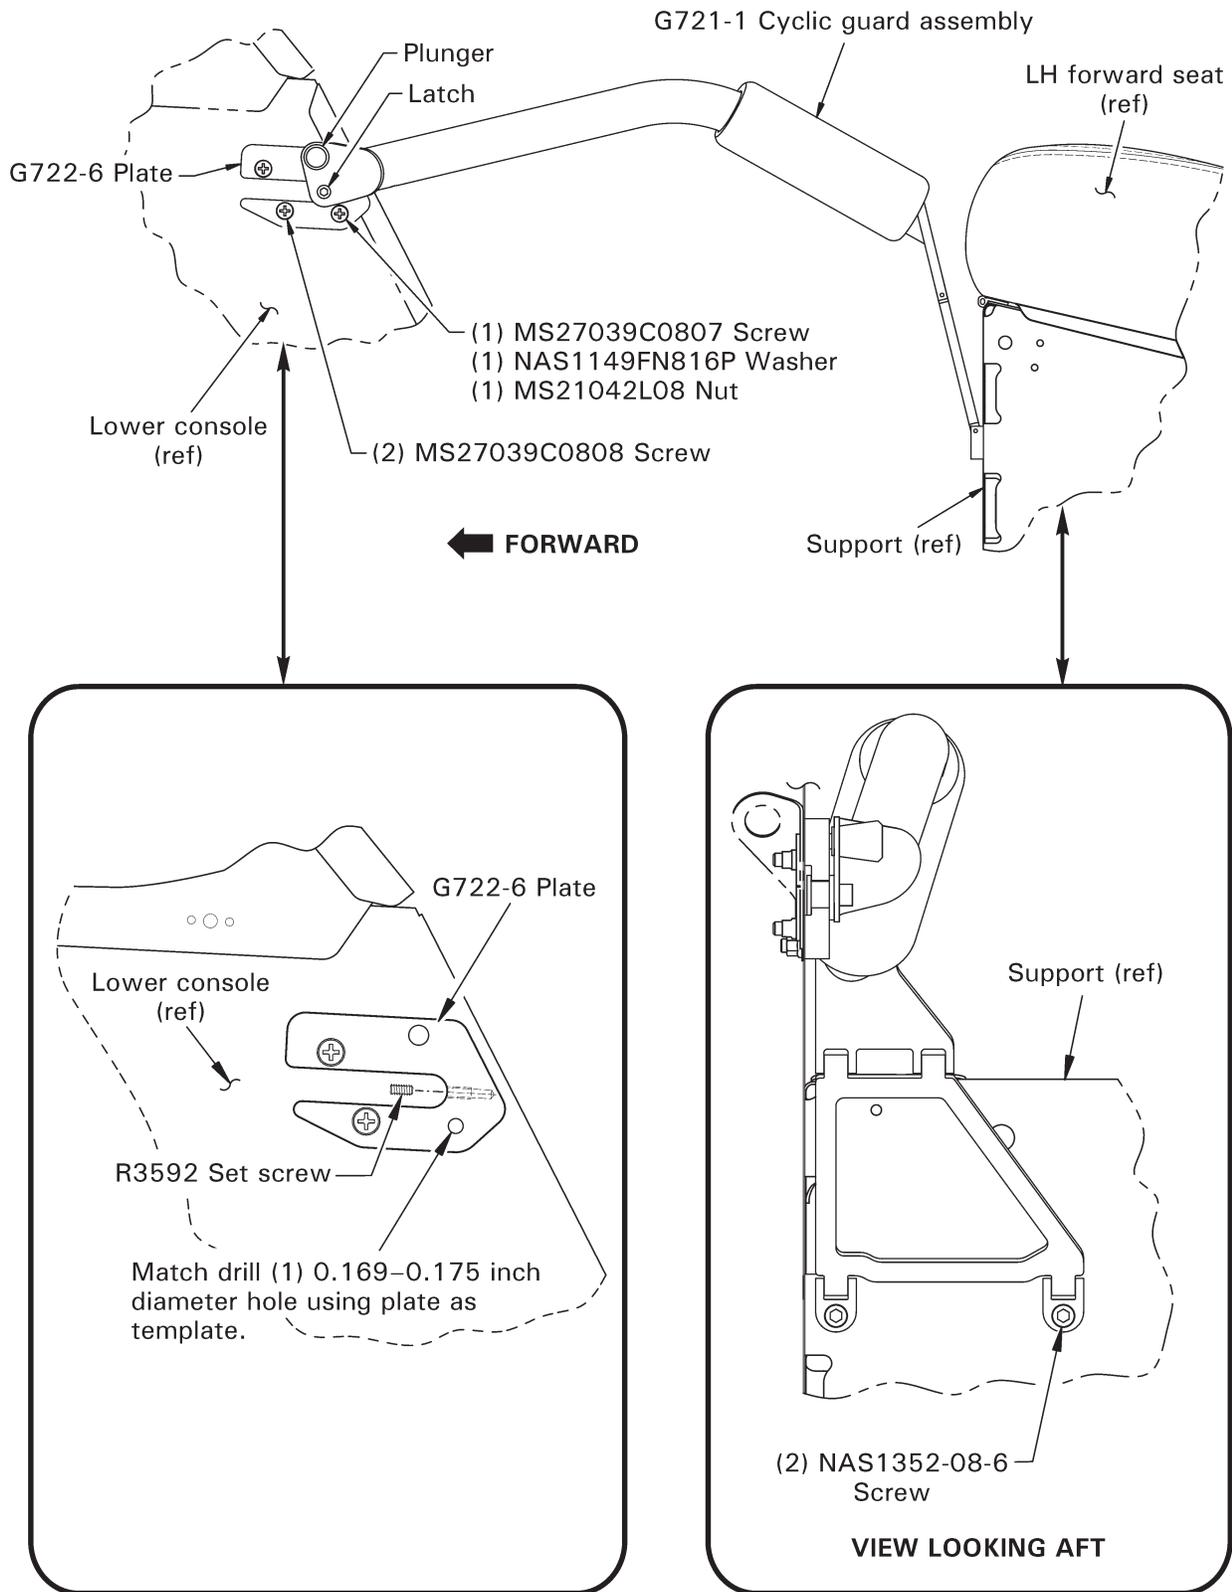
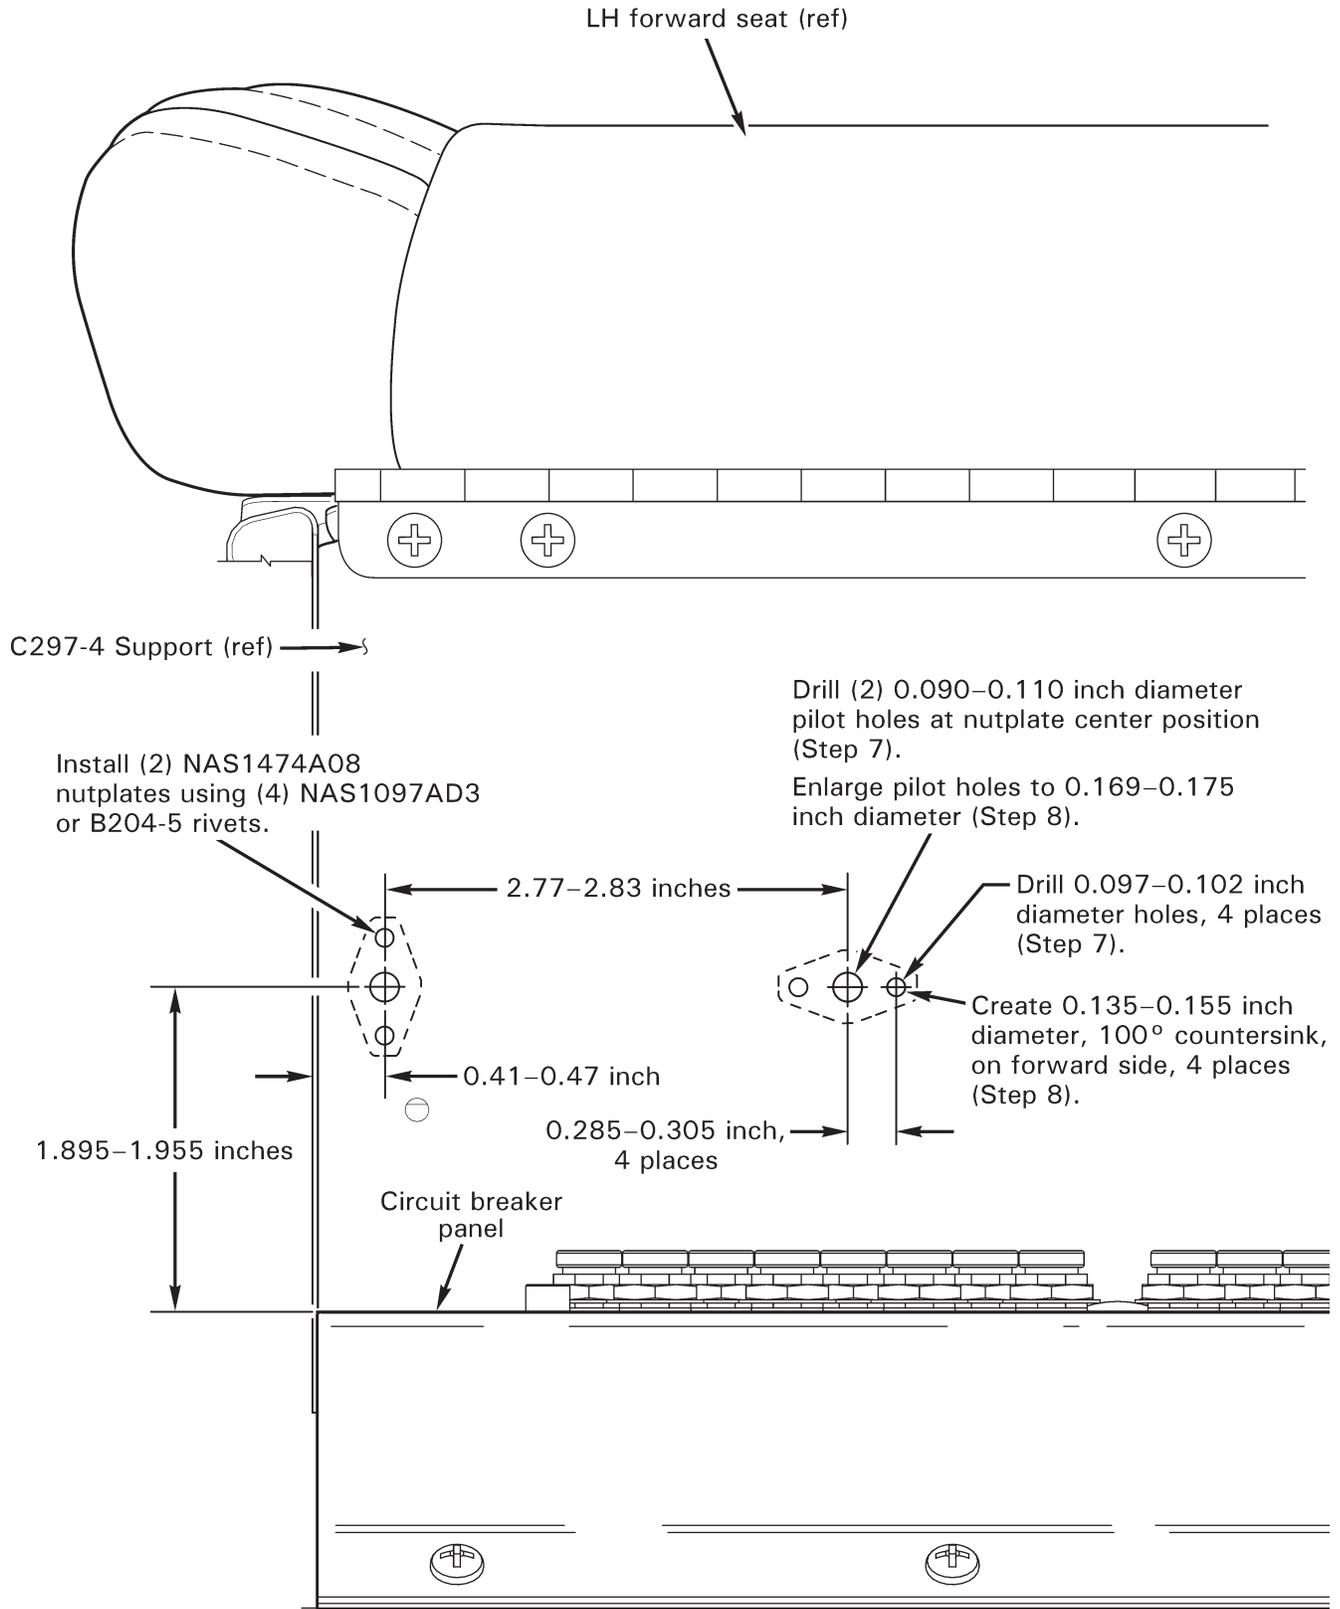
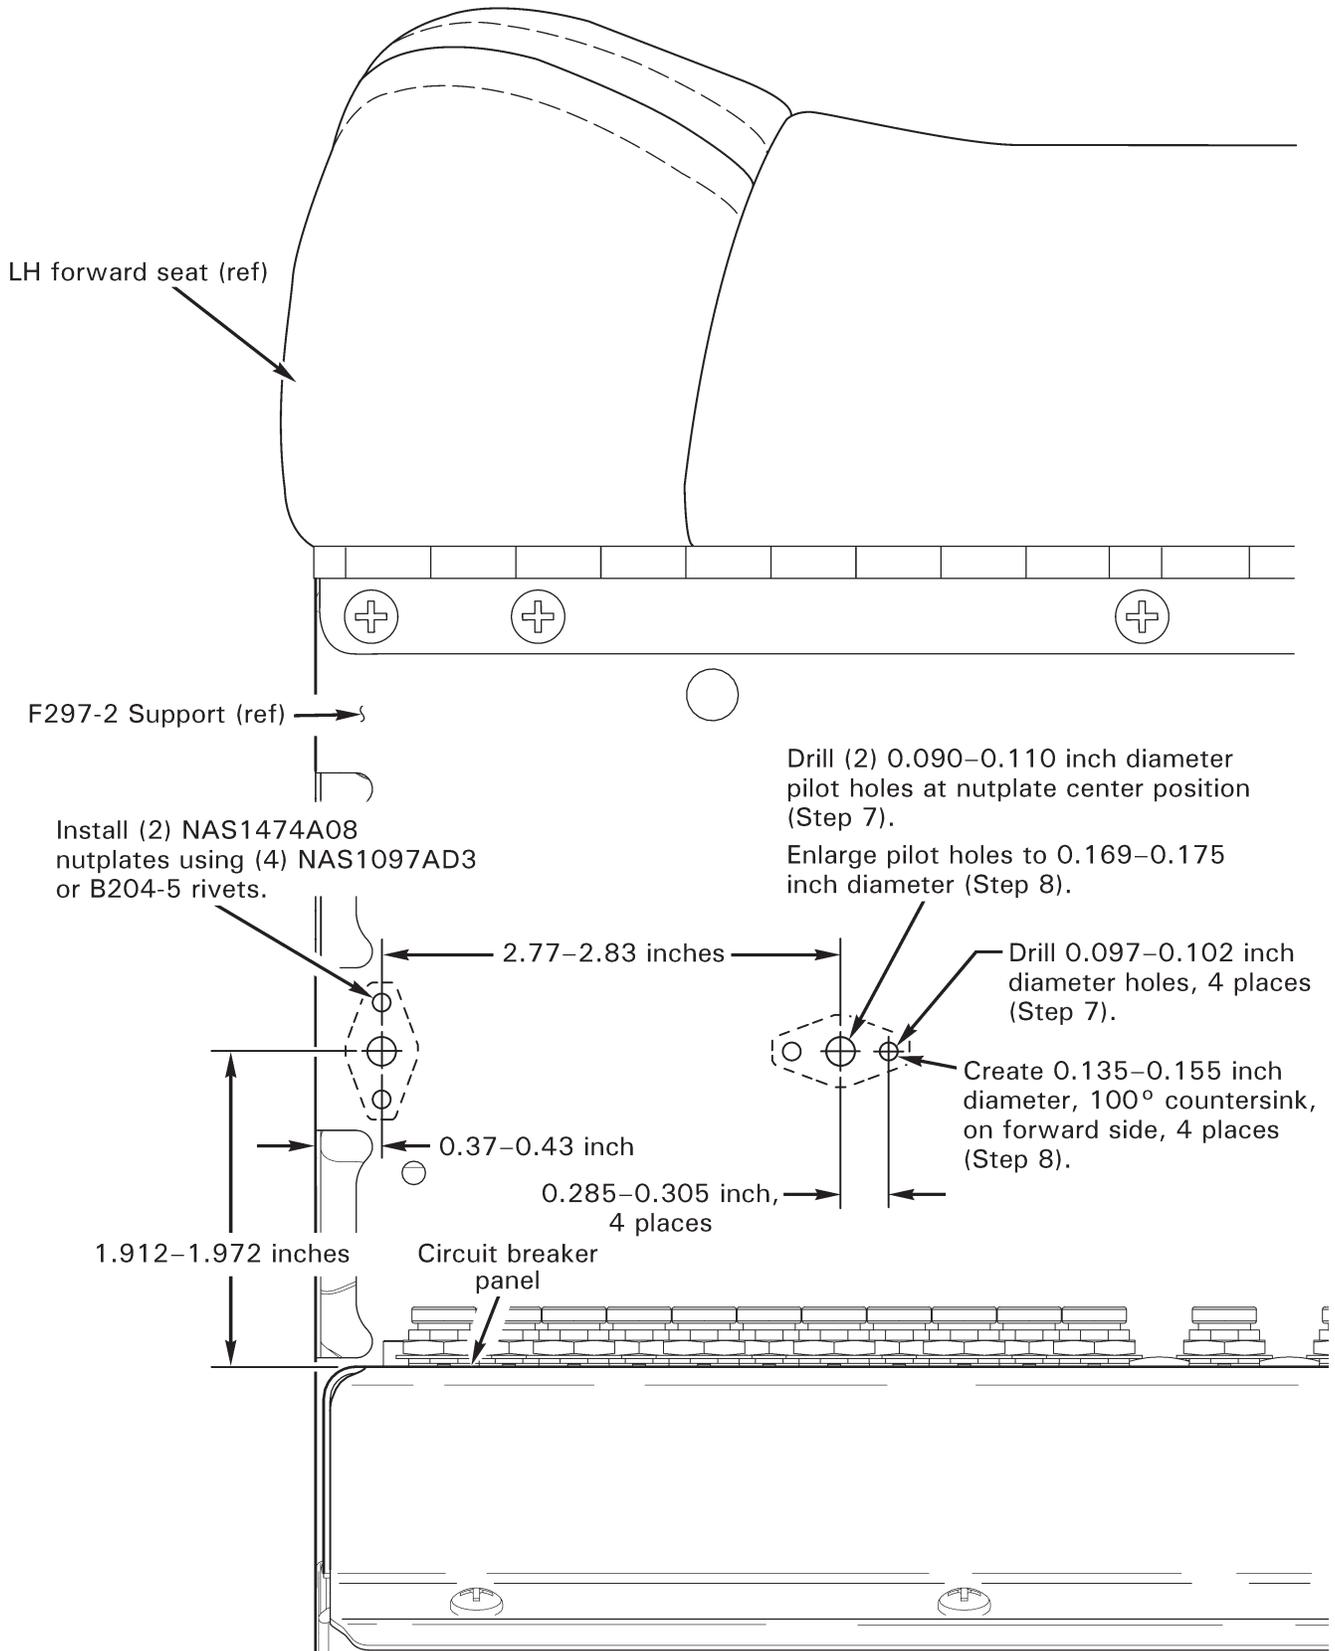

FIGURE 1 G720-1 Cyclic guard installation
FIGURE 2 R44 Nutplate locations
FIGURE 3 R66 Nutplate locations
4. Refer to Figure 1. Temporarily install G722-6 plate to outside of console, and C365 control mount to inside of console, using (2) MS27039C0808 screws (and retained nut/washer, if removed) in vacated holes. Using plate as template, match drill (1) 0.169–0.175 inch diameter hole in console. Remove plate and control mount, retaining all hardware. Deburr newly drilled hole and clean up debris.
5. Install R3592 set screw flush to G722-6 plate using 1/16-inch hex key wrench. Install plate to outside of console, and C365 control mount to inside of console, using (2) MS27039C0808 screws (and retained nut/washer, if removed); install (1) MS27039C0807 screw, (1) NAS1149FN816P washer, and (1) MS21042L08 nut, in remaining hole, securing plate.
6. Refer to Figure 2 (R44) or Figure 3 (R66). Layout dimensions on forward-side of (R44) C297-4 support or (R66) F297-2 support, as shown. If seat-mounted intercom button is installed, remove clamp at inboard location and temporarily reposition wire.
7. Drill (2) 0.090–0.110 inch diameter pilot holes in center location for nutplate installation as marked. Drill (1) 0.097–0.102 inch diameter rivet hole as marked at each nutplate location. Cleco (1) NAS1474A08 nutplate in each location, positioned as shown in Figure 2 or 3, and verify drilled hole locations. Match drill opposite rivet hole at each nutplate. Remove nutplates.
8. Drill (2) center pilot holes to 0.169–0.175 inch diameter and deburr holes. Create (4) 0.135–0.155 inch diameter, 100° countersinks, forward-side of support, in rivet installation holes. Clean up debris. Install nutplates using (4) NAS1097AD3-3 rivets, or B204-5 blind rivets, at installer's discretion.
9. Refer to Figure 1. Position G721-1 cyclic guard assembly with plunger at slot in G722-6 plate. Pull plunger out and slide latch aft into slot. Release plunger into hole at aft end of plate, securing cyclic guard assembly in raised position. Secure aft end of cyclic guard assembly to (R44) C297-4 support or (R66) F297-2 support, using (2) NAS1352-08-06 screws.